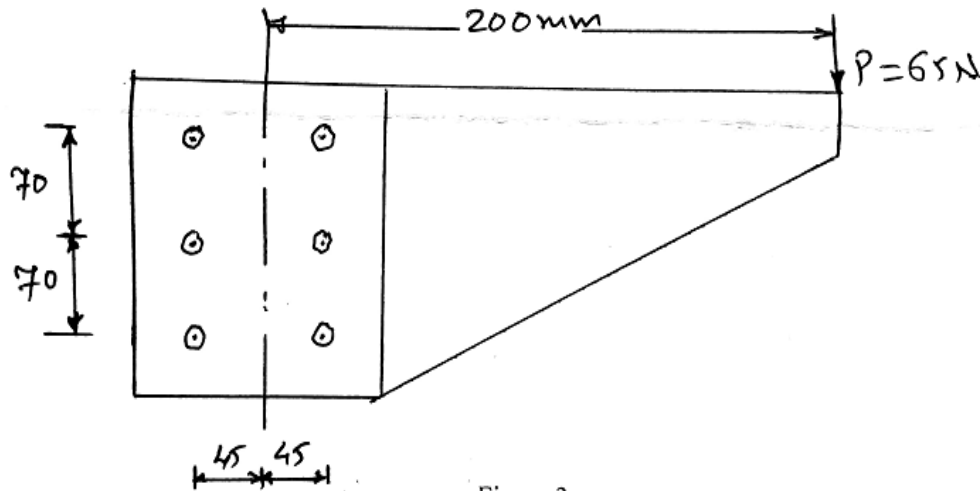

Figure 3.
Q.8 A bracket is riveted to a column by 6 rivets of equal size as shown in figure 3. It carries a load of 13 65KN at a distance of 200mm from centre of the column. If the maximum shear stress in the rivet is limited to 155MPa. Determine the diameter of rivet.